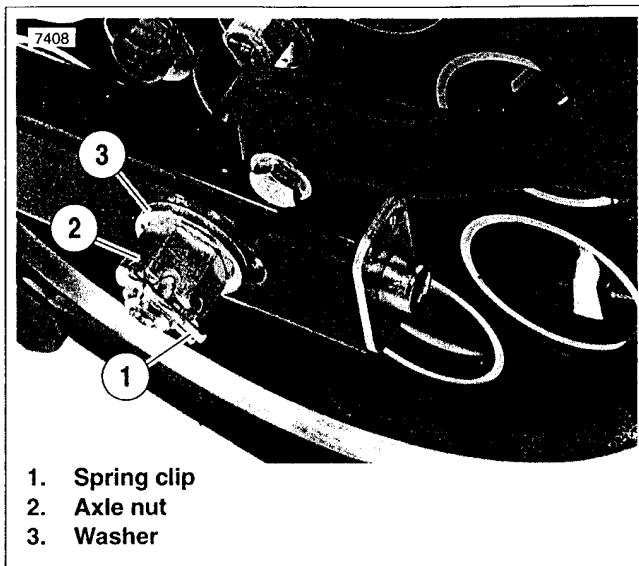

Figure 2-10. Rear Axle
4. See Figure 2-10. Remove spring clip (1), axle nut (2), and washer (3) from left side of axle.
5. See Figure 2-10. Install washer (3) and axle nut (2) on left side of axle.
- b. Check to see if the spring clip (2) can be installed. If required, tighten axle nut to no more than 65 ft-lbs (88.1 Nm) and align axle hole and nut slots. Install spring clip.